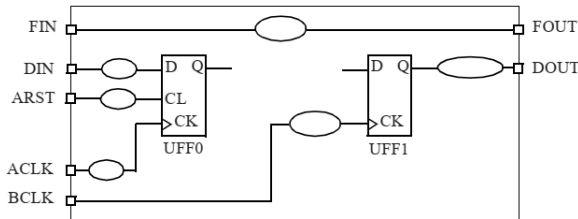

Fig.1
2. Evaluate the Interface timing model for a Black Box given in Fig.1. What are the various timing arcs in the Black Box.